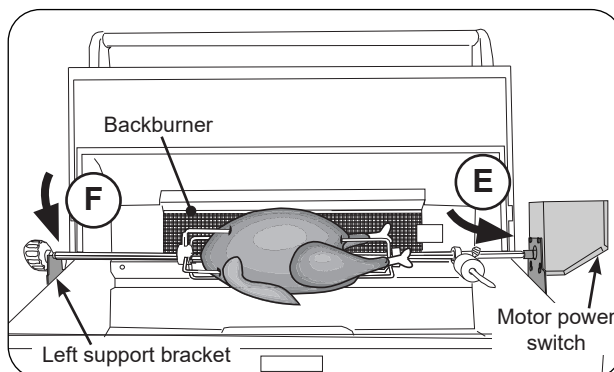

Fig. 43-4 Attach Rotisserie rod to motor
10. Insert the pointed-end of the rod into the motor drive socket (see Fig. 43-4, E). Then rest rod groove (next to the knob) into the left support bracket (see Fig. 43-4, F).